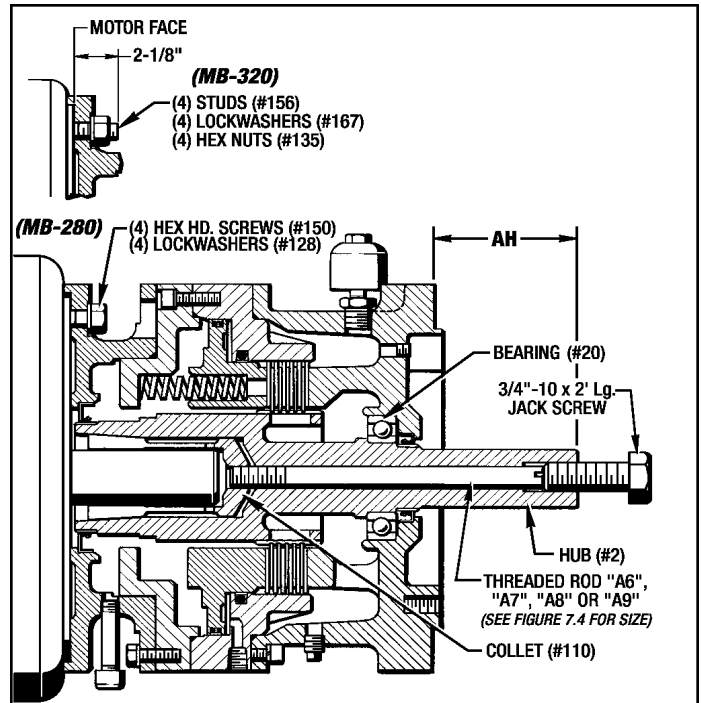

Figure 3.9 - Installing MB-280 and MB-320 Coupler Brakes
3. Attach the Brake Assembly to the motor face with (4) Hex Hd. Screws (#150) and (4) Lockwashers (#128). **Torque to 60 Lb. Ft.**
4. Install the correct Threaded Rod "A" into the Collet (#110) approx. 4 or 5 turns. **Hand tighten** the Jack Bolt into the end of the Hub (#2) just until it makes contact with the Threaded Rod "A". **Do not tighten any further.** (See *Figure 3.9*.)
5. Measure and establish the correct dimension **AH** from the mounting surface of the output C-Face flange to the end of the Hub (#2) extended shaft. (See *Figure 3.9*) **Use the same procedure as described in Section 9-11 Final Hub Alignment.**
3. Install the (4) Studs (#155) into the motor mounting holes with approximately 2-1/8" of thread exposed. Use Blue Loctite #242. (See *Figure 3.9*)
4. Attach the Brake Assembly with (4) Lockwashers (#128) and (4) Hex Nuts (#135). **Torque to 120 Lb. Ft.**
5. Install the correct Threaded Rod "A" into the Collet (#110) approx. 4 or 5 turns. **Hand tighten** the Jack Bolt into the end of the Hub (#2) just until it makes contact with the Threaded Rod "A". **Do not tighten any further.** (See *Figure 3.9*.)
6. Measure and establish the correct dimension **AH** from the mounting surface of the output C-Face flange to the end of the Hub (#2) extended shaft. (See Figure 3.9) Use the same procedure as described in Section 9-11 Final Hub Alignment.